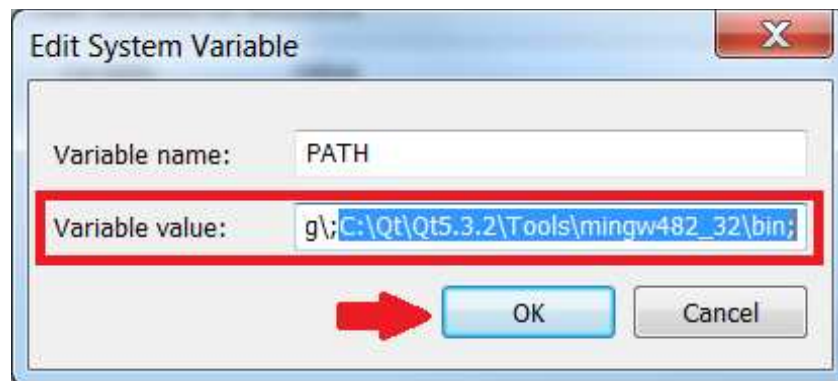

Figure 14. Insert MinGW Path
5. Insert the MinGW path that was copied earlier at the end of the “Variable value” field as shown in Figure 14. Click “OK” to make the changes.